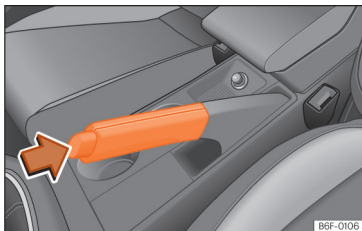

Fig. 165 Handbrake between the front seats.
– Pull the handbrake lever up »» **Fig. 165**.
– Pull the lever up slightly and press the release knob in the direction of the arrow »» **Fig. 165** and guide the handbrake lever down fully »» **△**.